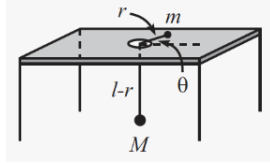

Fig. 1. Given figure for Problem 1
For Week 6, we are given two problems. The first problem shows us a mass m that is free to move on the surface of a frictionless table. Mass m is attached to another mass M via a string that goes through a hole in the table. We can assume the string has no spring-like properties, and is therefore always taut. The representation of this system is shown in Figure 1. Our first objective in this problem is to solve for the Euler-Lagrange equations of this system with respect to r and θ . Our second and third objectives here are to discuss the behaviors of r and θ in the EL equations. The fourth objective of the first problem is to give the conditions under which \dot{r} and \ddot{r} cause a circular motion for mass m .
1) *Find overall kinetic energy of the system (T):* In Fig. 1, we consider vector \mathbf{r} . Say the x - y plane is the surface of the table. Since we consider an angle θ as shown, we can say,